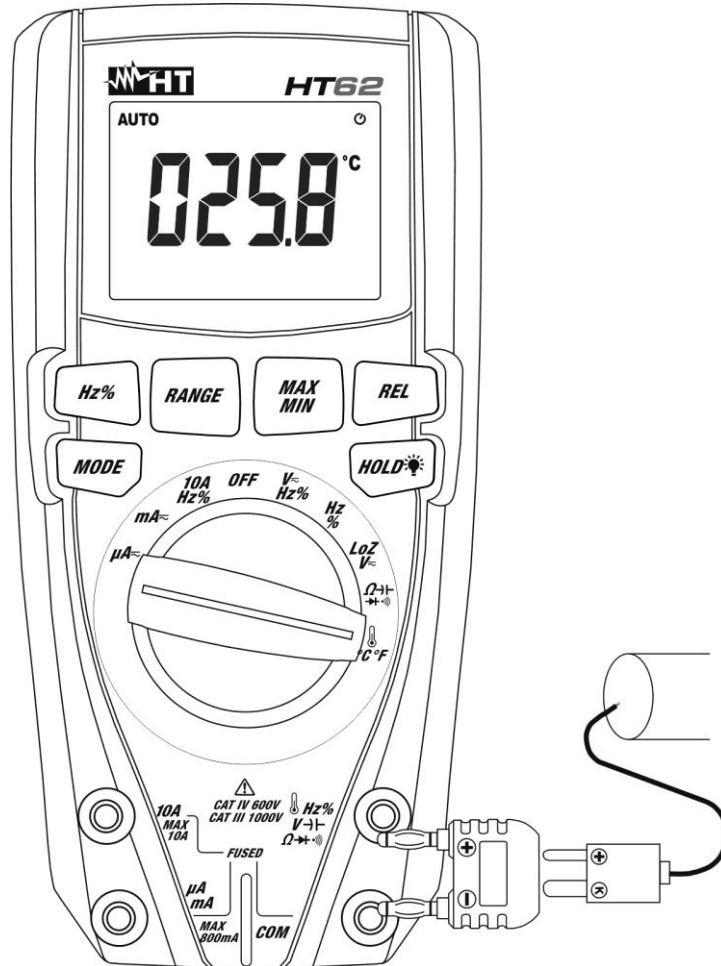

Fig. 9: Use of the instrument for Temperature measurement
3. Insert the provided adapter into input terminals  $\text{Hz%V-} \rightarrow \text{V-} \rightarrow \text{V+} \rightarrow \text{Ω} \rightarrow \text{Hz%}$  (polarity +) and **COM** (polarity -) (see Fig. 9)